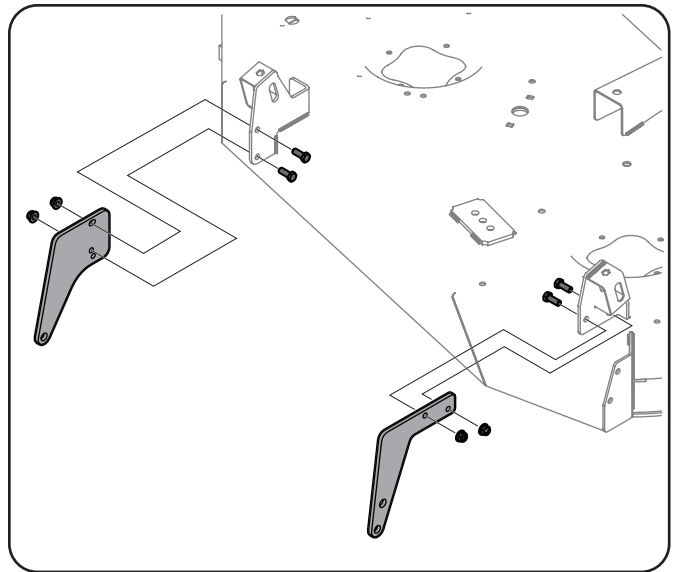

**Figure 1-14**
1. Use Figure 1-14 below to identify which mounting holes to use in mounting the Left Roller Bracket (#6) to the deck. Fabricated Decks - Use mounting hole locations "A". Stamped Decks - Use mounting hole locations "B"
2. Install the Left and Right Roller Brackets (#6 & #7) to the location shown in Figure 1-14 on the Tractors deck with two Hex-head Capscrews (#1) and two 3/16 Lock Nuts (#3) per side. See Figure 1-15.